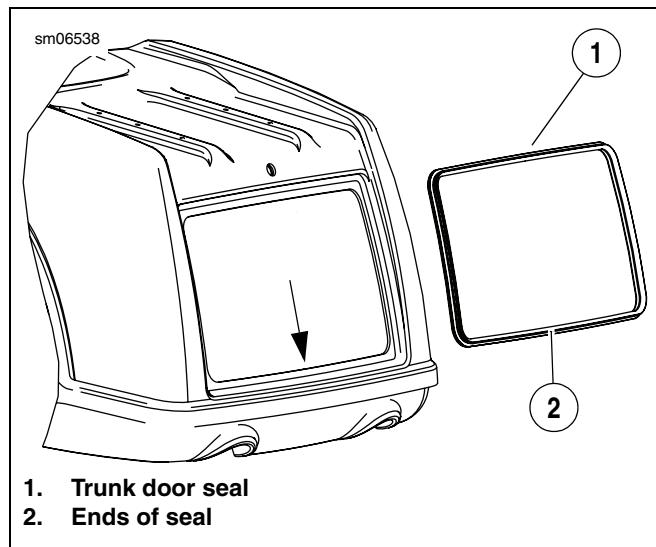
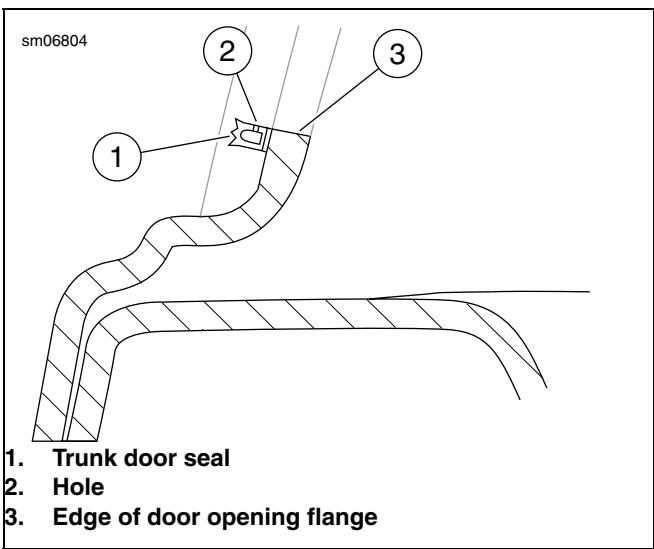

Figure 1. Trunk Door Seal
Figure 2. Cross Section of Gasket Placement
See Figure 2. Install the new seal (1) with the holes (2) toward the inside of the opening (3).
5. See Figure 1. Beginning at the bottom-center of the opening, adhere the seal even with the edge of the opening as shown in Figure 2. Work only 3-4 in. (76-102 mm) at a time.